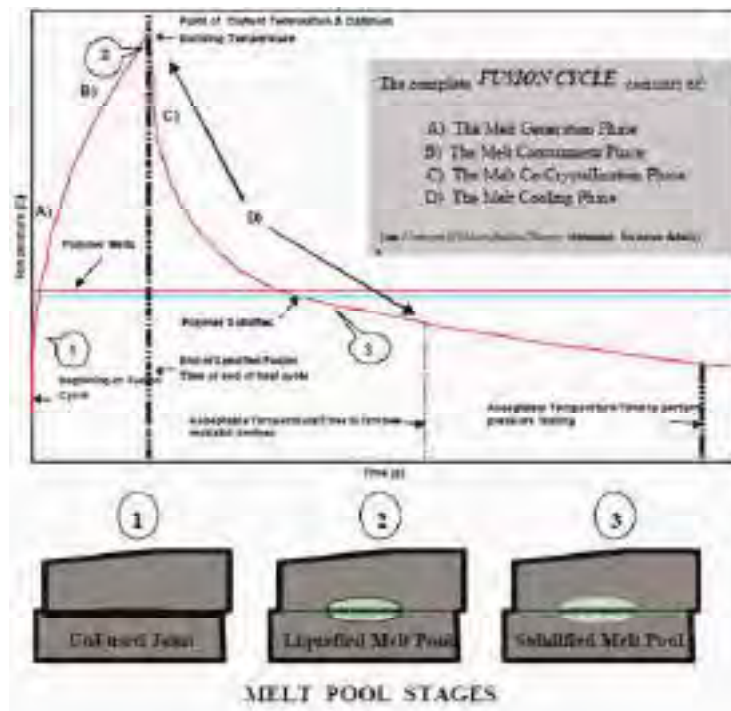

Fig. 2.6.53 Fusion cycle and melt pool stages
4. The effectiveness of the cooling phase can be illustrated in the actions of the melt pool (Refer fig 2.6.53). We need to look closer at the melt pool stages created during the electrofusion process.
6. With continued application of current, the melt pool deepens at the pipe and fitting interface which in turn forces internal pressures to build up. This process is known as co-crystallization between the melted pipe and fitting material (C).